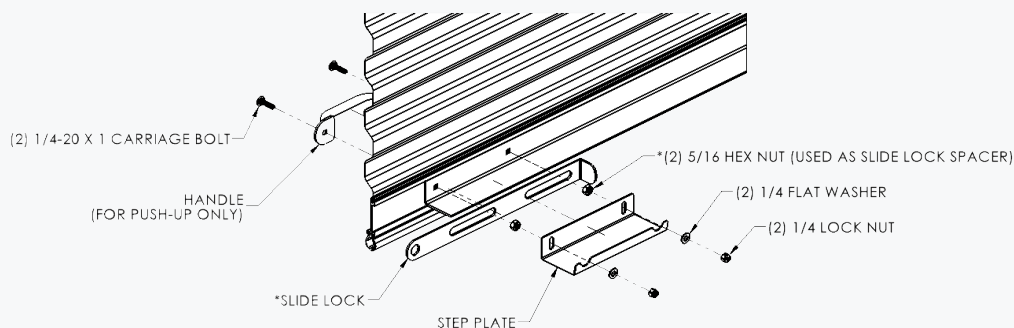

figure 18: Slidelock & Step Plate (Manual Operation)
- ✦ For chain hoist operated doors, lower the bottom bar and install the slide lock and step plate using (2) 1/4-20 x 1" carriage bolts, (2) 5/16-18 hex nuts, (2) 1/4 flat washers and (2) 1/4-20 nylon lock nuts. Do this at both ends of bottom bar. **See Figure 18.**
- ✦ *For electrically operated doors, lower bottom bar and install step plate using (2) 1/4-20 x 5/8 carriage bolts and (2) 1/4-20 Keps nuts. **See Figure 18 (OMIT SLIDE LOCK)**